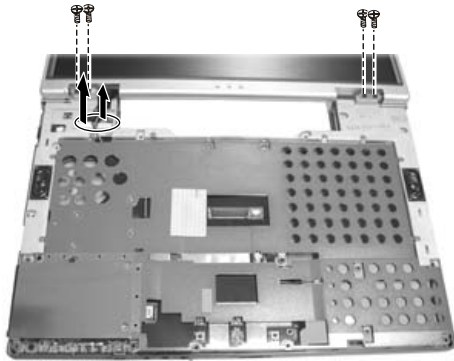

Figure 2-22 Remove the four screws and
6. Disconnect the two cables and remove the four screws. (Figure 2-22)